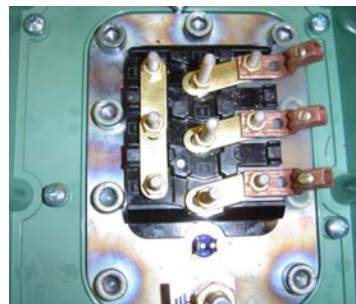

Figure 2.16a
15. Remove the (3) 10 mm nuts holding down the plastic terminal cover (10mm nutdriver). Remove cover and install the jumper bars to correspond to your system voltage (See Figures 2.16a and 2.16b). Install the wire lugs (I) on the terminals marked L1, L2, & L3. Replace the terminal cover. Refer to label inside of terminal box for more detail and other voltages.